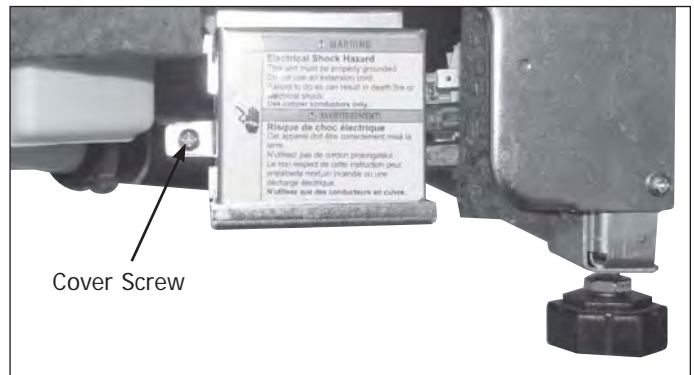

Figure 4-20.
3. Extract the screw securing the junction box cover to front cross brace. (See Figure 4-20)